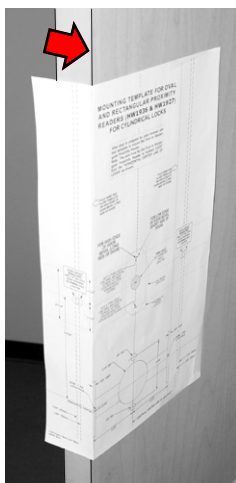

FIG. 4: EXAMPLE OF OUTSIDE DOOR EDGE (ARROW)
- The **Proximity Reader** is always located on the outside ("unprotected" side) door surface. Fold and place the template (WI2098) on the outside door edge (see arrow in Fig. 4 for an example). Align the template with the **"HORIZONTAL CENTER LINE OF LEVER"** as shown on the template. Tape the template in place.